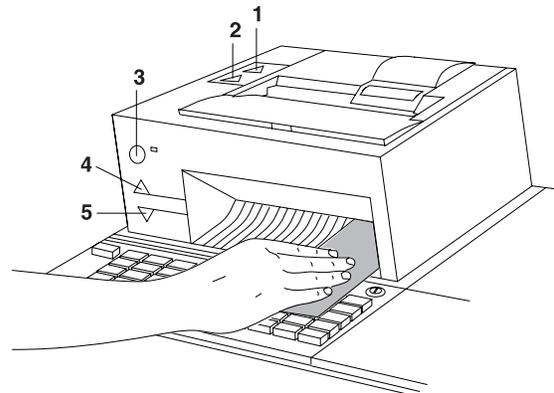

Figure 6-5. Inserting a Head Cleaner in Models 3R and 4R Printer
- 3 See Figure 6-5 and press button (4) until the cleaner appears at the top of the printer.
- 4 Press button (5) until the cleaner appears at the bottom of the printer.
- 7 Press button (5) to feed the cleaner out the bottom of the printer.